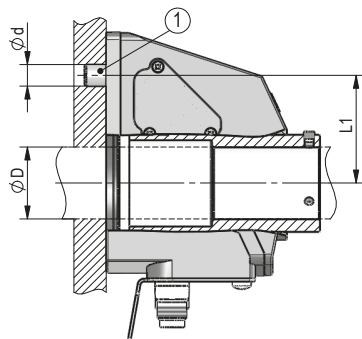
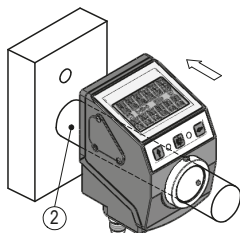
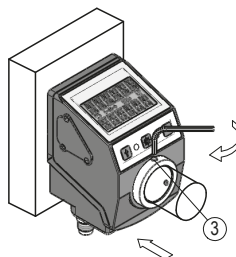

Fig. 1: Mounting dimensions
Fig. 2: Mounting
Fig. 3: Fastening torque for screws
- ▶ Ensure a low shaft and angle offset between shaft and accommodation bore by applying appropriate manufacturing methods (see **Fig. 1** + **Tab. 1**).
Preparing mounting (Fig. 1, Fig. 2, Fig. 3):
Mounting (Fig. 1, Fig. 2, Fig. 3):